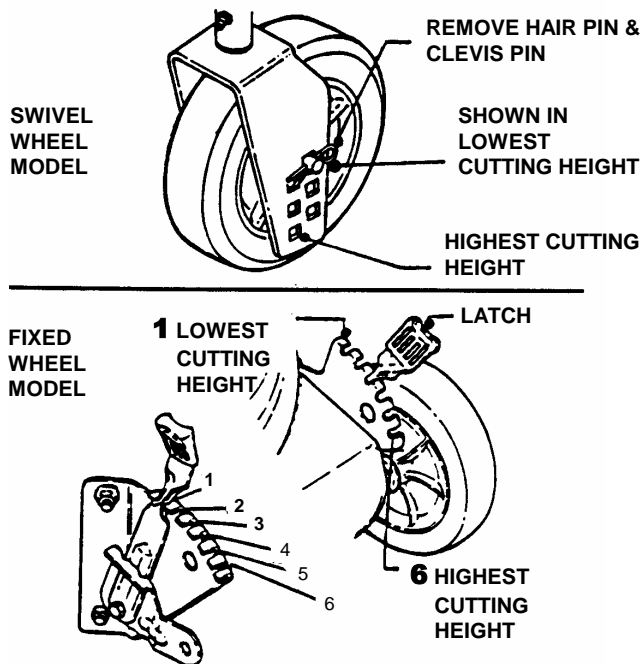

FIGURE 2.7
1. **Fixed Wheel Models:** Pull the height adjusting latch outward and move to desired cutting height. See Figure 2.7.